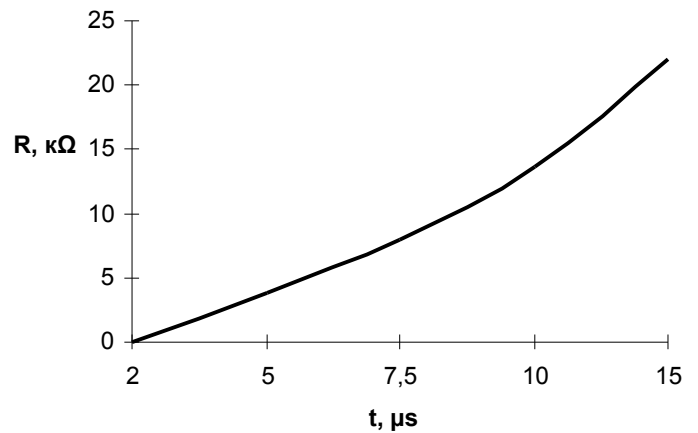

Figure 10 – “Dead time” duration versus trimming resistor nominal R_{dt}
| «Dead time» between signal changes of the first and second output channel | t_{TD} | μ s | 2 | | | Set by consumer; ref. to Figure 10 |
Resistors Rdt1, Rdt2 – timing resistor of switching delay setting of the first and second channel. Actually resistors regulate turn-on delay time thereby when you install the resistors with different nominal the rise time switching delay of controlled pulses of the first and second channel will be different. If there is no need to increase of switching delay time then you should install the jumpers instead of resistors. The dependence of delay time on resistor nominal is shown at Figure 10. Initially resistors of nominal 1 Ω are installed that corresponds to min. “dead time” (2 μ s).
- set up “dead” time by Rdt resistor in accordance with the Figure 10;